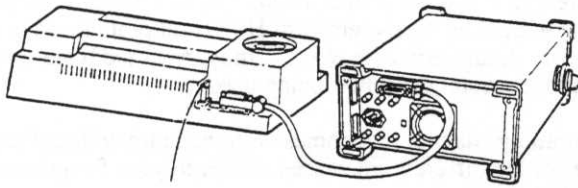

Figure 3-1
**PLOT** initiates a plot dump over the interface, without an external controller. (See **CONFIG**.) The plotting process is similar to the printing process. Printing is usually faster than plotting, but plotting provides higher resolution output. The analyzer works with plotters such as the HP 7440A (HP-IB, RS-232). Figure 3-1 shows the rear view of a typical plotter/spectrum analyzer configuration.